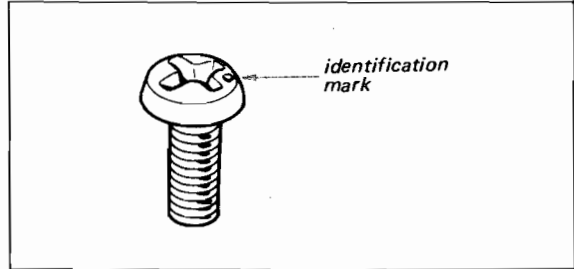

Fig. 2-1. ISO screw
**Note:** All screws in the SQD-1000 are manufactured to the specifications of the International Organization for Standardization (ISO). This means that the new and old screws are not interchangeable because ISO screws have a different number of threads per mm compared to the old ones. The ISO screws have an identification mark on their heads as shown in Fig. 2-1.